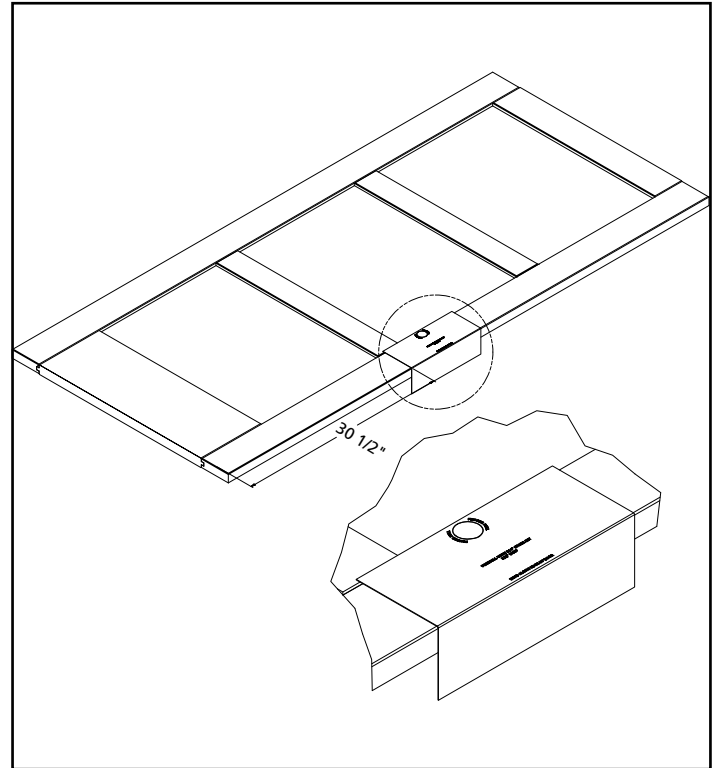

Figure 5. Aligning Finger Pull Drill Guide to Door.
2. Fold as indicated on guide and wrap guide around door, placing the guide on the backside of the door, aligning the bottom edge 30 1/2" above the bottom of the door as shown in Figure 5.